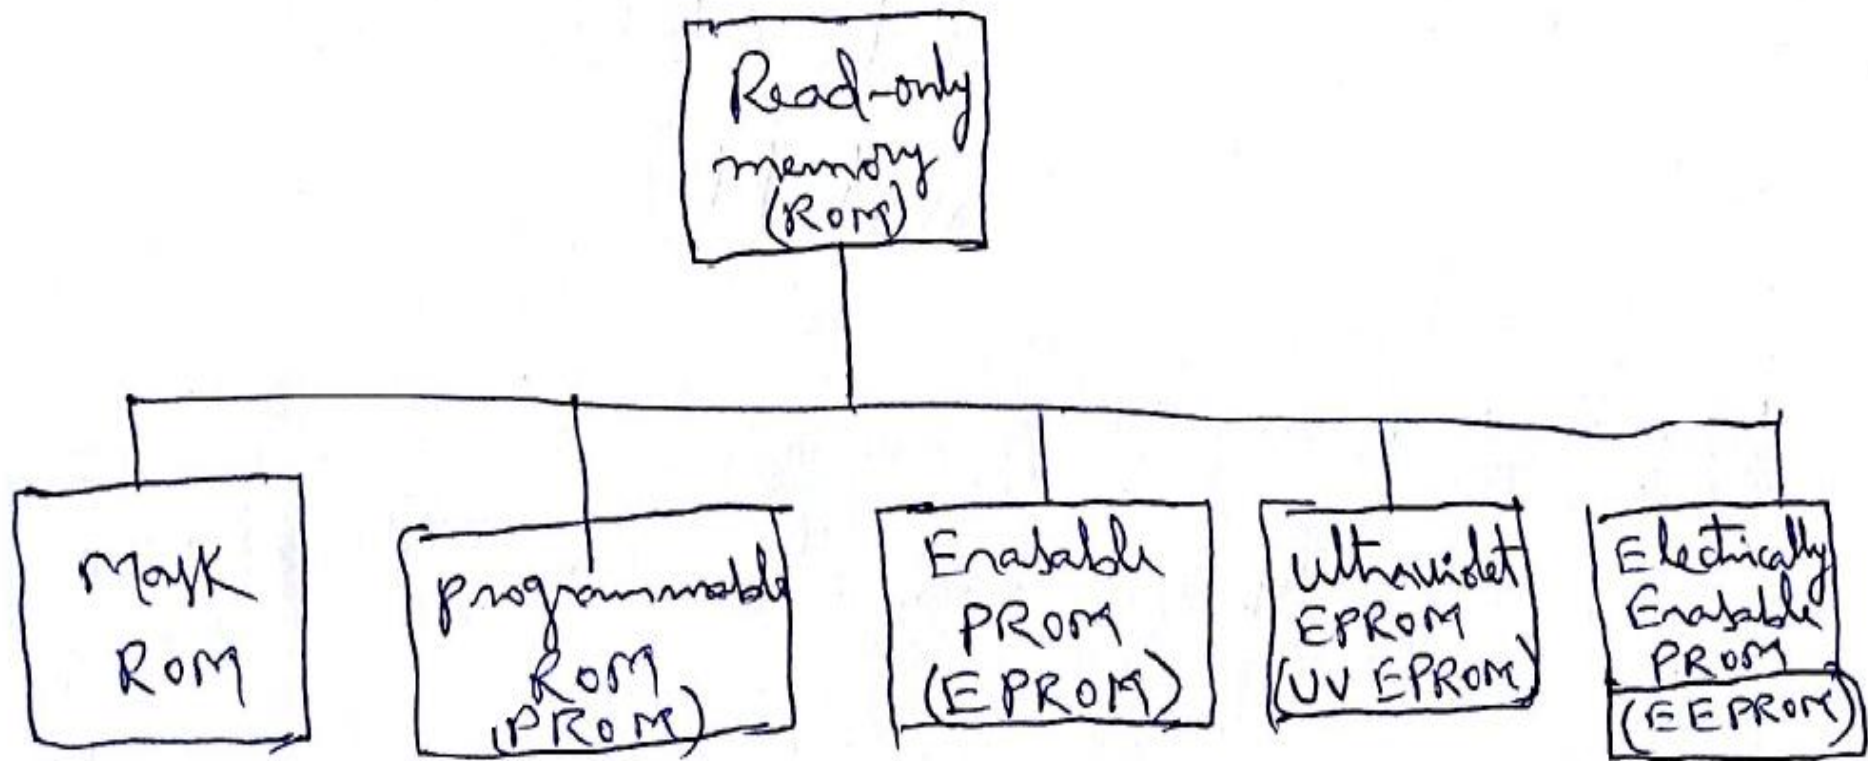

Fig 10-22 The ROM family
- Figure 10.22 shows how semiconductor ROMs are categorized.